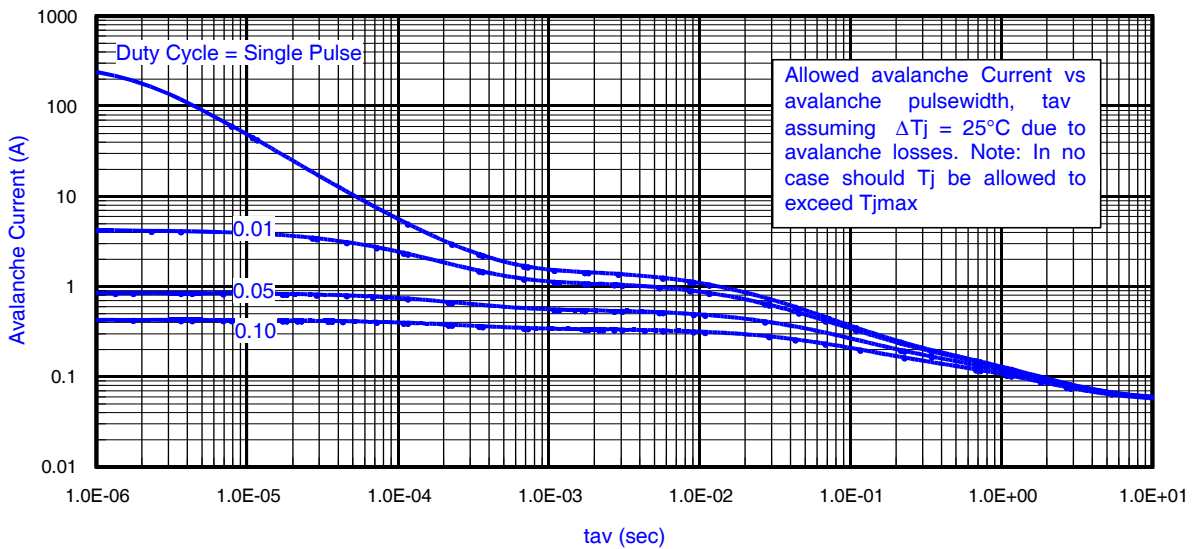

Fig 14. Typical Avalanche Current vs. Pulsewidth
**Notes on Repetitive Avalanche Curves , Figures 14, 15:
7. ΔT = Allowable rise in junction temperature, not to exceed T_{jmax} (assumed as 25°C in Figure 14, 15).